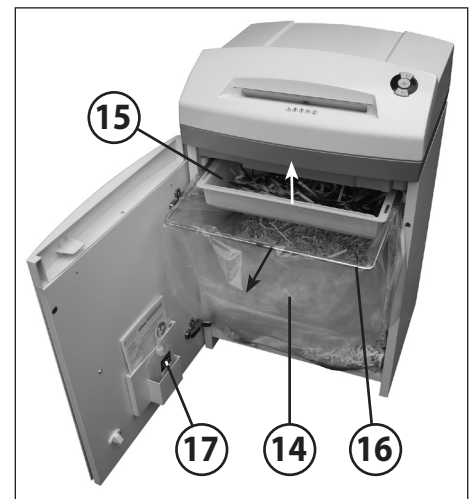

fig. 4
14 = Paper collection bag (Fig. 4)
15 = CD/DVD collection container (Fig. 4)
16 = Bag frame (Fig. 4)
17 = Oil reservoir (Fig. 4)
EMPTYING THE PAPER COLLECTION BAG (Fig. 4):
EMPTYING THE CD/DVD COLLECTION CONTAINER (Fig. 4):
Open the door. The control display (8) comes on and the reverse button (4) LED display as well as the control display (7) **flashes**. Remove the oil reservoir (17) (Fig. 4) from the holder in the door and close the door again.